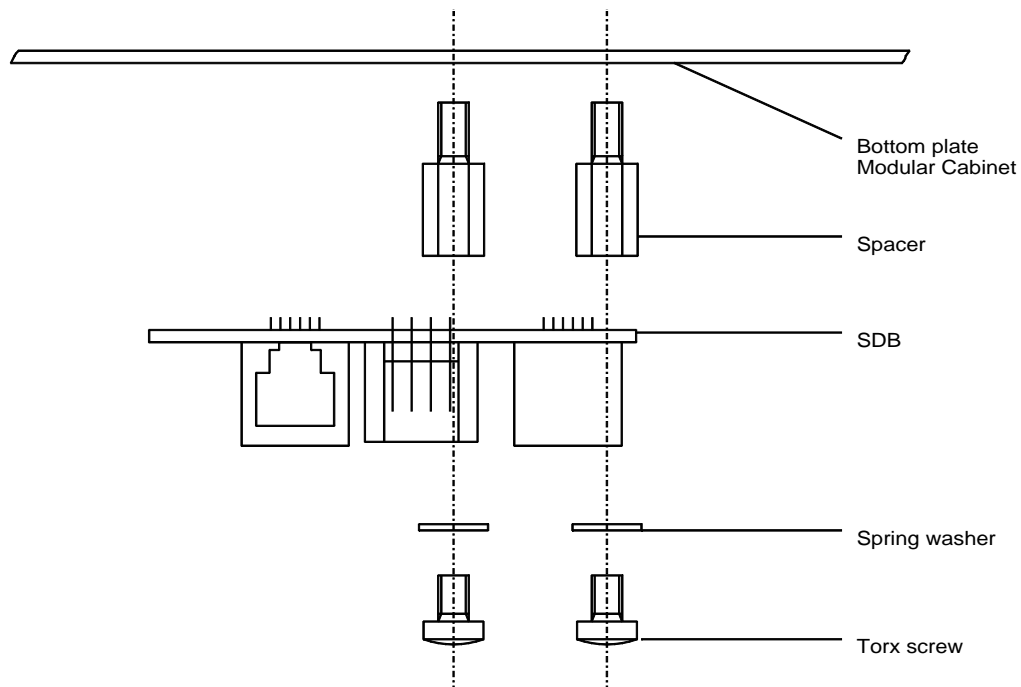

Fig. 4–7 Mounting of the Synchronization Distribution Board
1. Unscrew the left fixation screw of the mains switch bracket (refer to Figure 4–2 for the location and orientation).
4. Mount the SDB as indicated in Figure 4–7 and tighten screws (maximum torque 0.59 lb./ft.).
1. Connect the protective ground to the ground terminal screw lug on the ground strip (see Figure 4–8) of one of the cabinets, using a #10-#12 gauge wire ground cable.